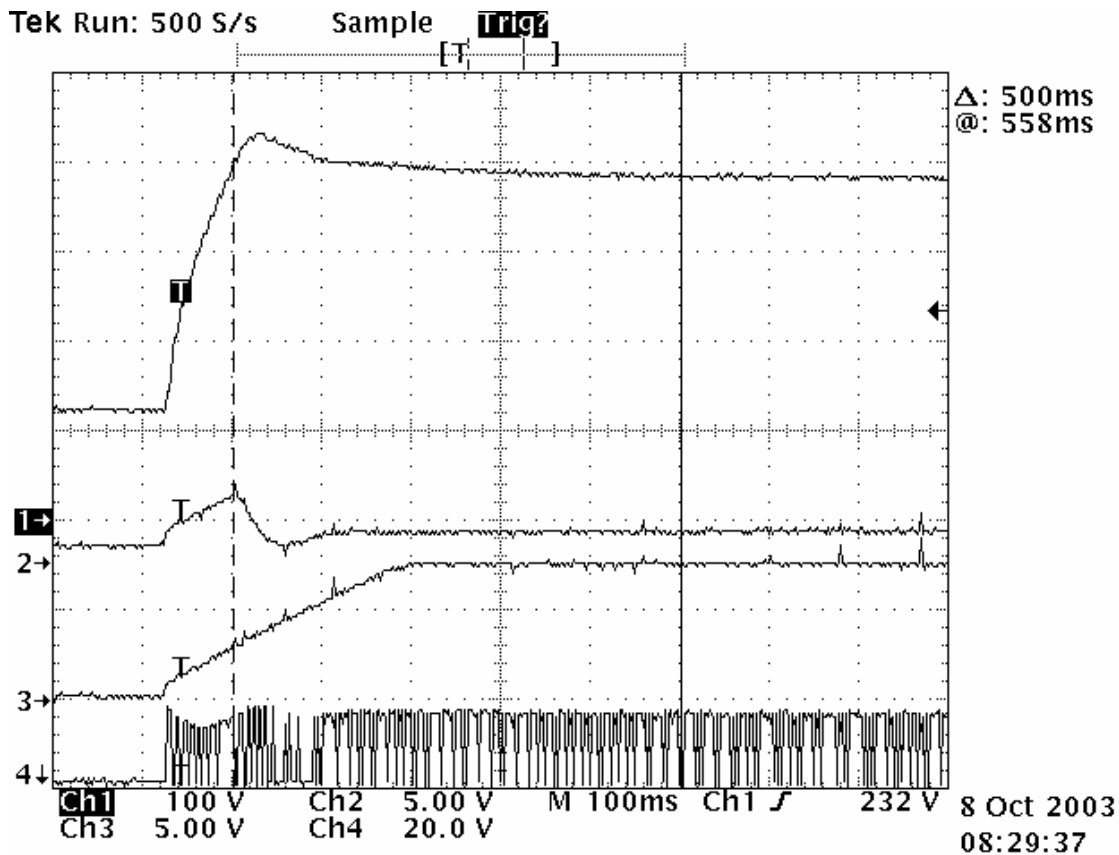
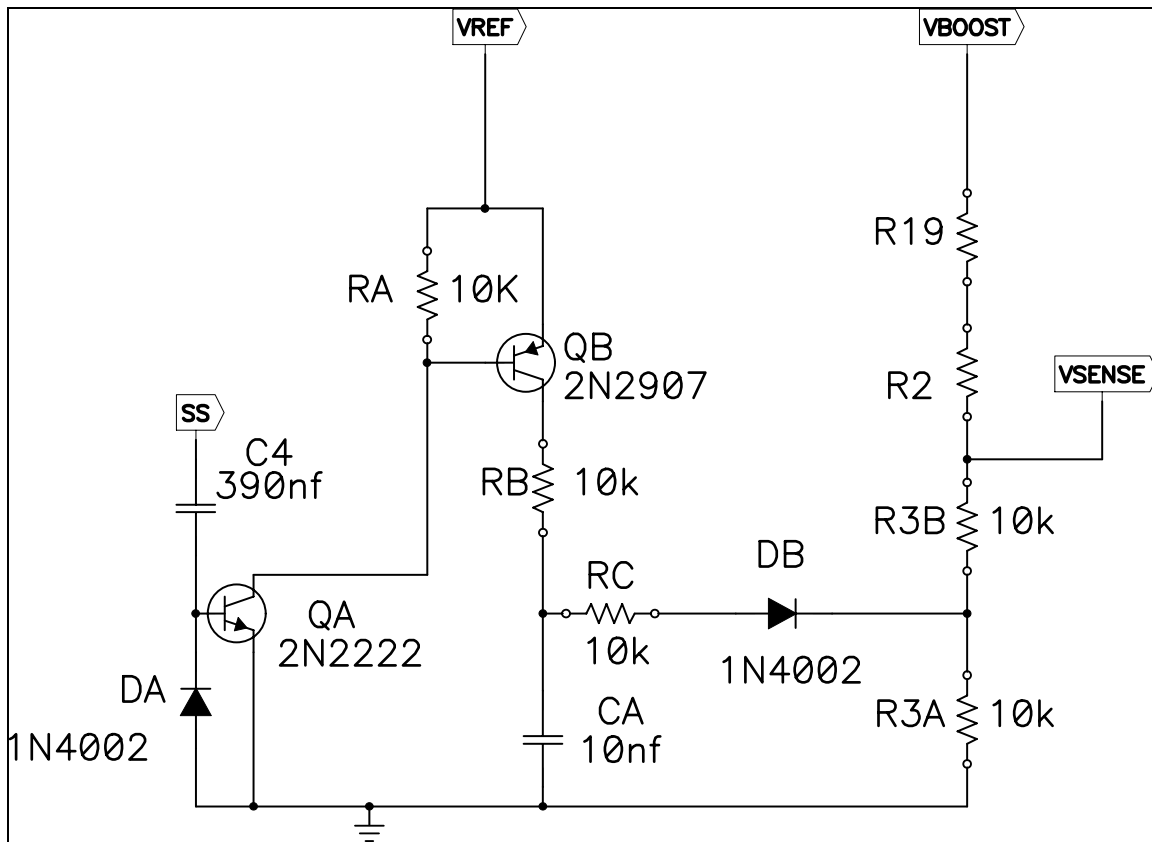
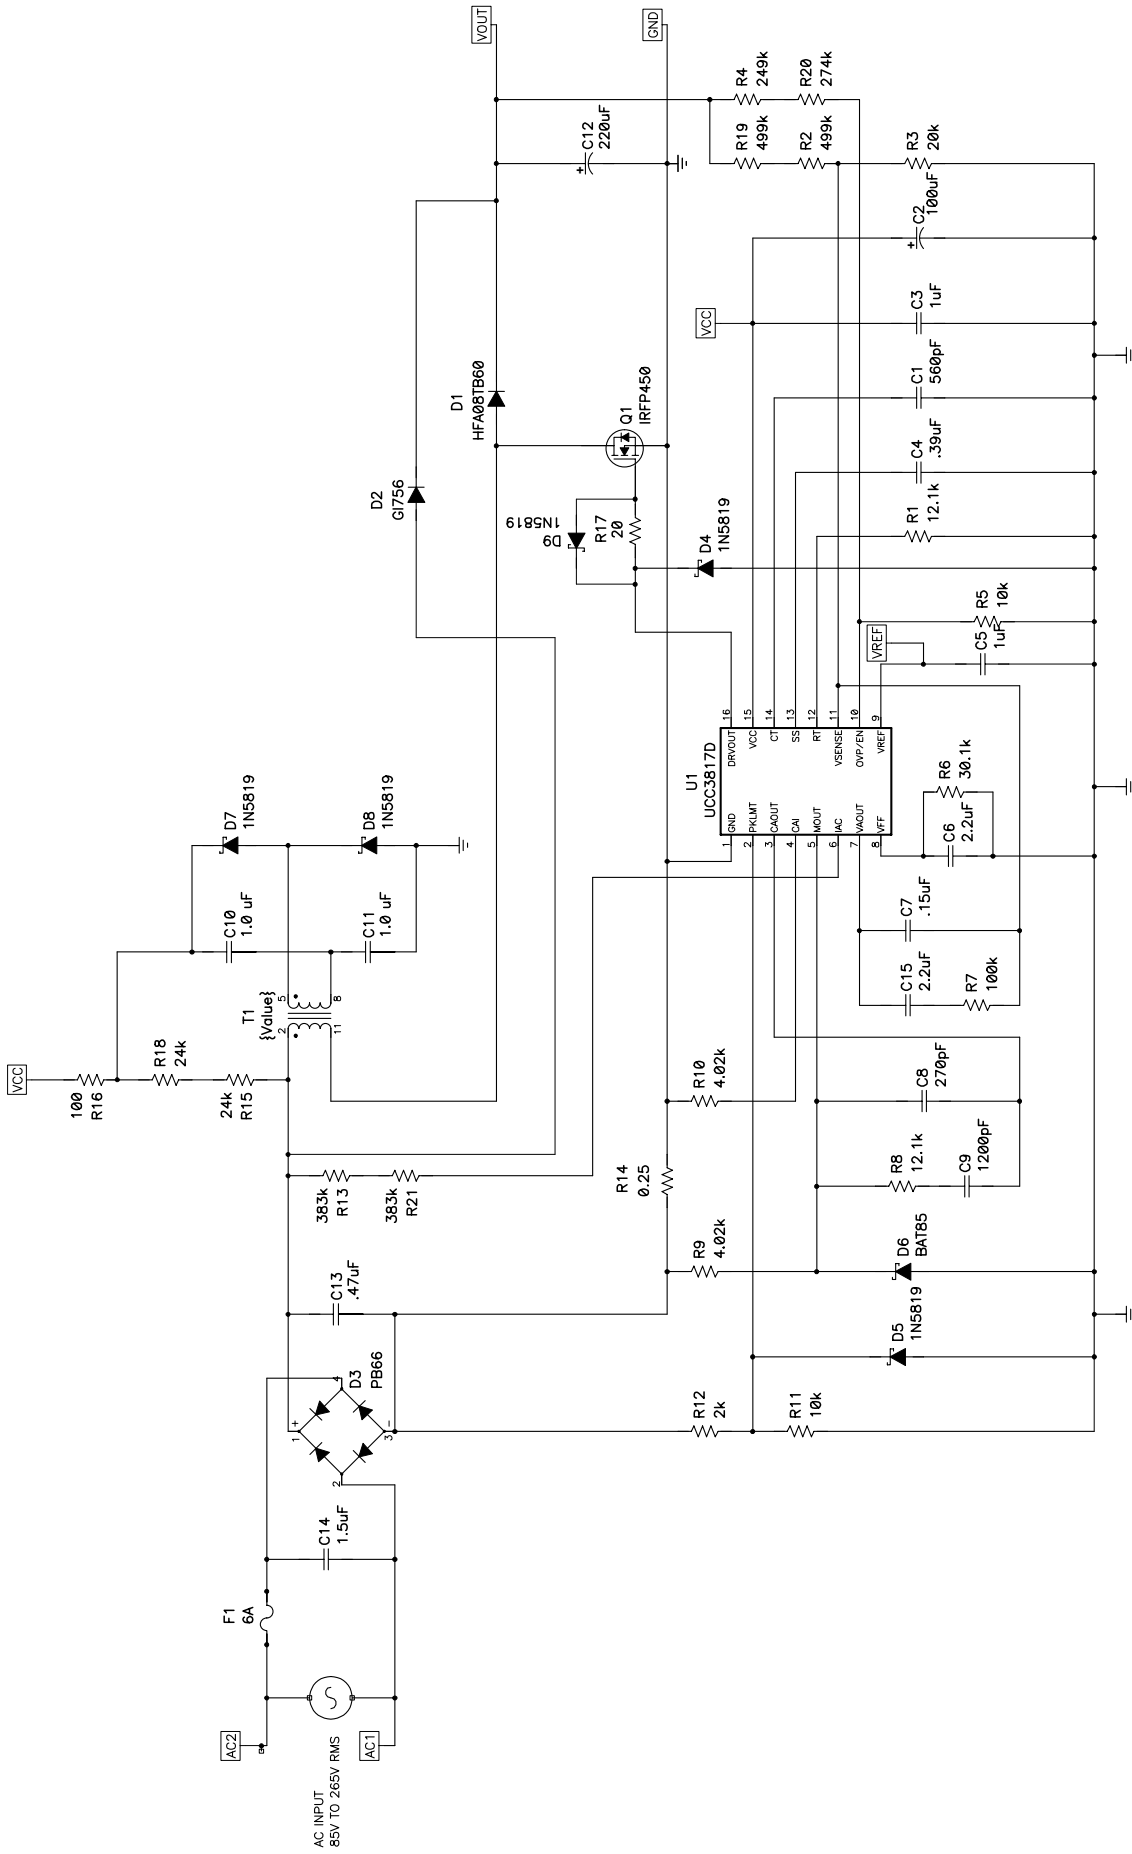

Fig. 5: Typical Start Behavior For A PFC Pre-Regulator
Fig. 6: Overshoot Suppression Circuitry
Fig. 1: Typical PFC Application
Editor's Note: For best legibility the complete PFC application circuit (referred as Fig. 1) is reproduced on the last page of this TechNote. Readers needing the circuit as a separate file can download it at <http://www.analogZONE.com/pwrt1101a.pdf> or [pwrt1101a.jpg](http://www.analogZONE.com/pwrt1101a.jpg).
The schematic in Fig. 1 (see last page) shows a PFC pre-regulator that was designed to operate off a universal line voltage (ie 85 Vrms to 265 Vrms) with a regulated 385 V, 250 W dc output. The second power stage that would be downstream from this pre-regulator typically is designed to operate with an input voltage as low as 75% of the pre-regulator's output to handle "brownout" conditions.
In some applications, the design requires a fast start-up and bringing up the boost voltage slowly is not an option. A major problem with speeding up the soft start is the boost voltage will overshoot: electrically stressing the boost capacitor (C12) of Fig. 1.
The circuit in Fig. 1 needed to be designed to soft-start within 300 ms. The design requirement was that the boost voltage be within 75% of its targeted output voltage within 300 ms. The waveform in Fig. 5 shows the startup characteristics of this design. CH1 is the output voltage (Vout), CH2 is the voltage amplifier output (VAOUT) and CH3 is the soft-start (SS) voltage. CH4 is the gate drive signal from the DRVOUT pin of the UCC3817 that controls the boost switch Q1.
The simple circuitry in Fig. 6 can be used to remove the overshoot and speed up the power supply start-up characteristics. This was implemented by removing R3 and C4 and connecting the additional circuitry. Please refer to Figs. 1 and 6 for proper circuit implementation.